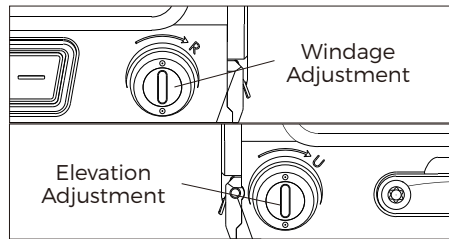

Fig 8
2. The elevation adjustment is located on the right side of the housing and the windage adjustment is located on the left side of the housing. Windage and Elevation adjustments can be made using the included tool. (see Fig 8).